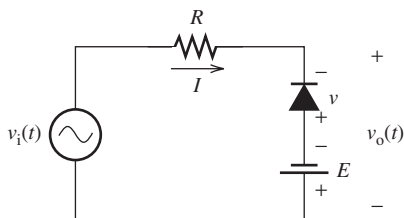

FIGURE P8.16 Circuit for Problem 8.16.
- 8.16 (B) For the circuit shown in Figure P8.16: